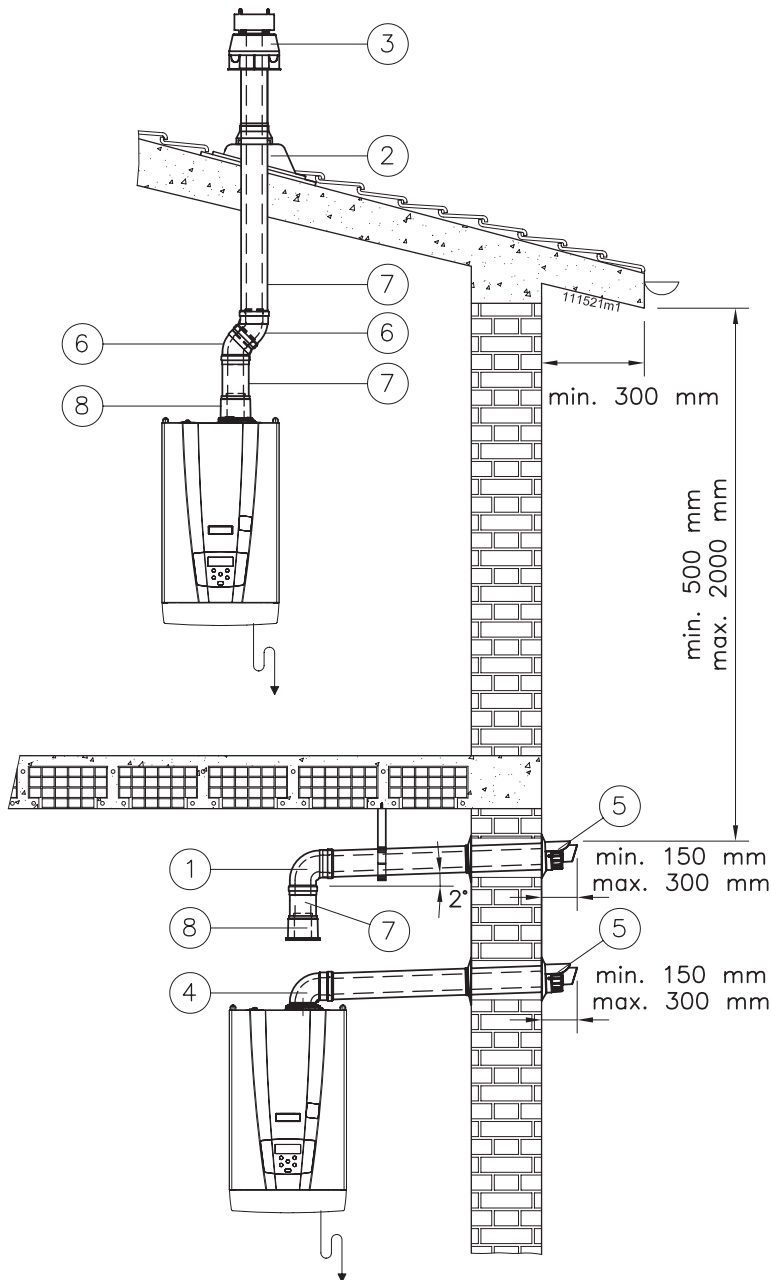

Figure 5-30 - Examples of coaxial pipe installations
**ATTENTION !!!** Once these operations have been performed, check that the exhaust/intake terminal is exposed to the outdoors with the tolerances given in figure 5-30.
**⚠ ATTENTION !!!** Once these operations have been performed, check that the exhaust/intake terminal is exposed to the outdoors with the tolerances given in figure 5-30.
When a coaxial exhaust is made (see figure 5-30), both vertical and horizontal, the exhaust pipe slope upwards in a way to make the condensate flow into the appliance.
**ATTENTION !!!** The horizontal terminal must be protected against the accidental return of rain water. To do this, gables must be installed (or projections or balconies or relevant protections ) with the minimum dimensions given in figure 5-30